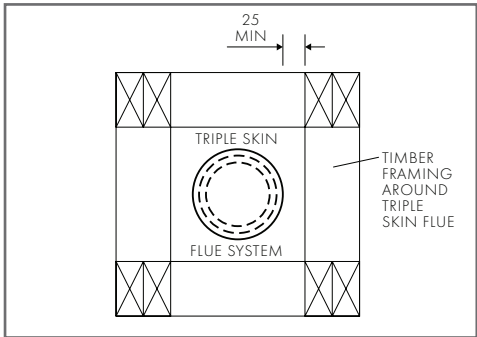

FIGURE 3A
4.1. Timber Framed Flue Enclosures (Fig 3A) 6
4.1. TIMBER FRAMED FLUE ENCLOSURES (FIG 3A)
Where flues are to be left exposed or surrounded with combustible materials, the triple skin ventilated flue system is required (refer "4.1. Timber Framed Flue Enclosures (Fig 3A)" on page 6).